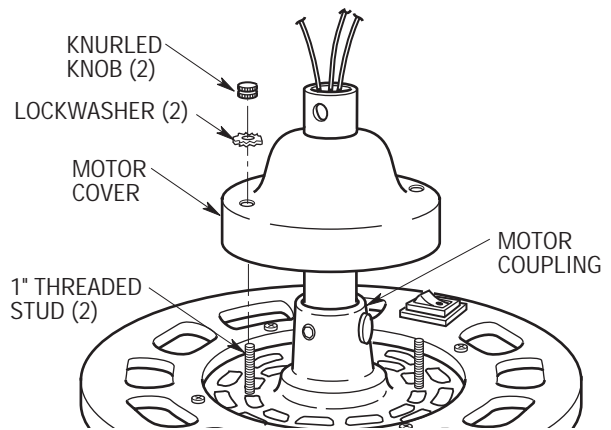

Figure 3
- 6. Screw two 1" threaded studs (supplied) into the motor (Figure 3). Leave approximately 7/8" of the stud extending above the motor. Coil the wires and wire connectors around the motor coupling then slide the motor cover over the downrod and rotate the cover until the threaded studs protrude. Install two lockwashers (supplied) to secure the cover to the motor. All wires and wire connectors must be enclosed under the motor cover.